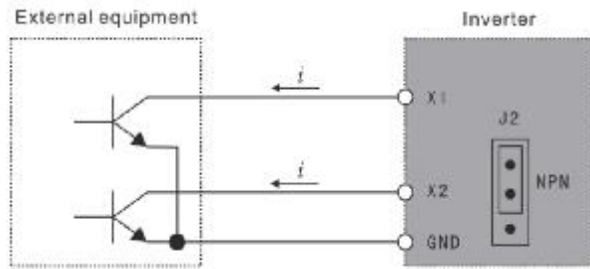

Figure 3-1 NPN Type Wiring Mode
(1) When NPN type wiring mode is adopted for external equipment, leakage type logic is induced and the current flows out from input terminal (sourcing current) as shown in Figure 3-1, at the same time parameter P067=0 is required.